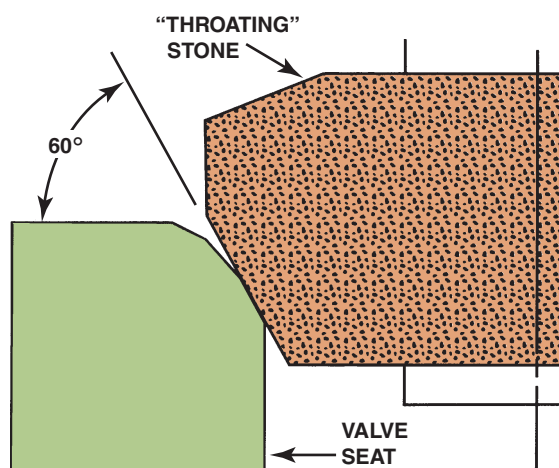

FIGURE 27-27 Grinding a 60 degree angle removes metal from the bottom to raise and narrow the seat.
- The second angle uses a 60 degree stone or cutter to remove material right below the valve seat to increase flow in or out of the combustion chamber. This angle is called the **throating angle**. ● **SEE FIGURE 27-27.**